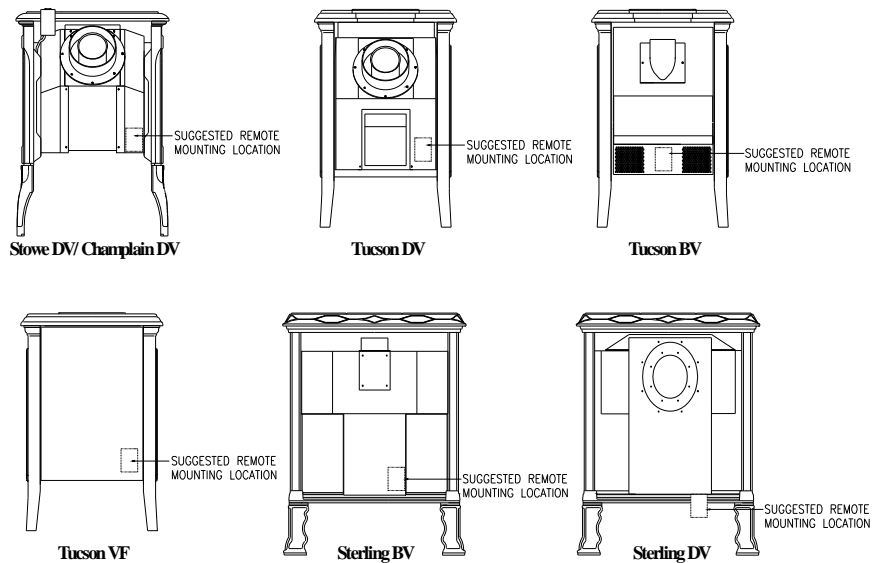

Figure 2 – Suggested Mounting Locations
6. Magnetically attach the **Remote Receiver Assembly** to the unit in the suggested mounting location shown in Figure 2.